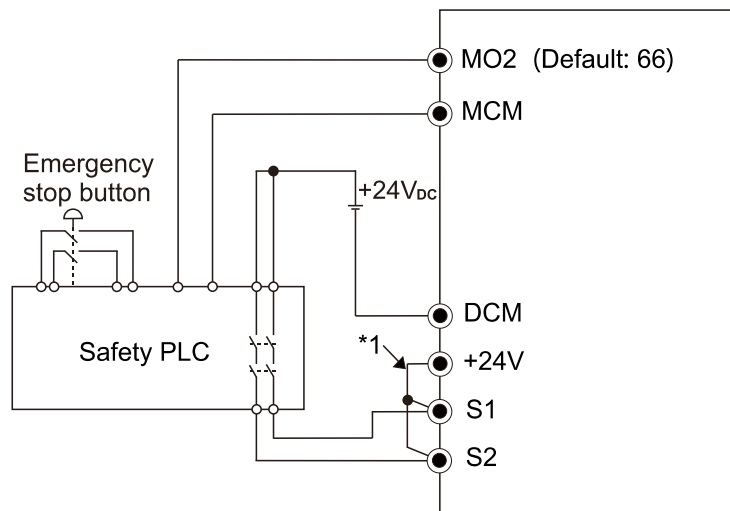

Figure 3
2. The wiring is shown in Figure 3 below. Normally, you must close the ESTOP contact switch, so the drive can output without displaying an error.